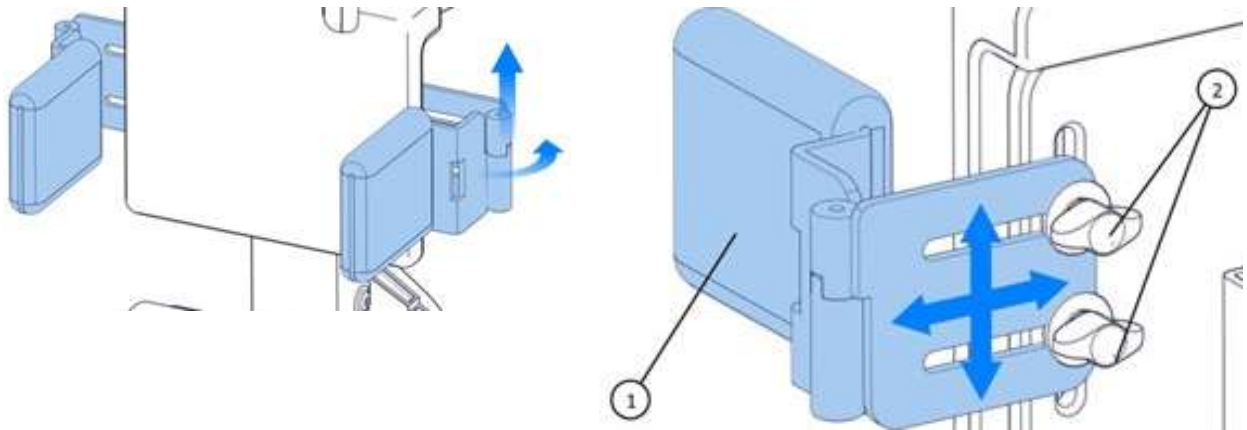

Fig. 31
See Fig. 31 Lift the support (1) and tilt it. Proceed with the second support in the same way. The tilted supports make it easier to place the patient in the device. To re-fasten the Swing Away supports, tilt them back until they snap back into their base position. The Swing Away supports can be adjusted in two directions by loosening the knob (2) and tightening the knobs (2) after adjustment (2) When the device is not fitted with a belt, skip the first step and start by lifting the lateral support.